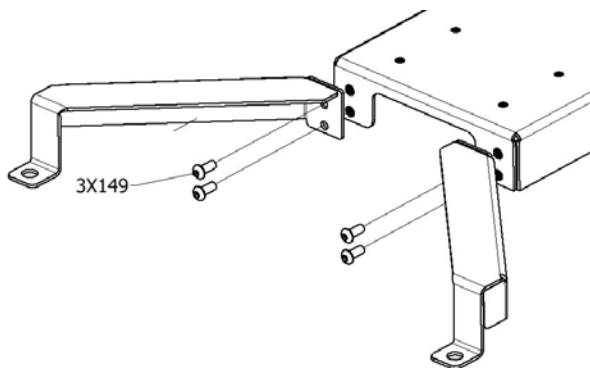
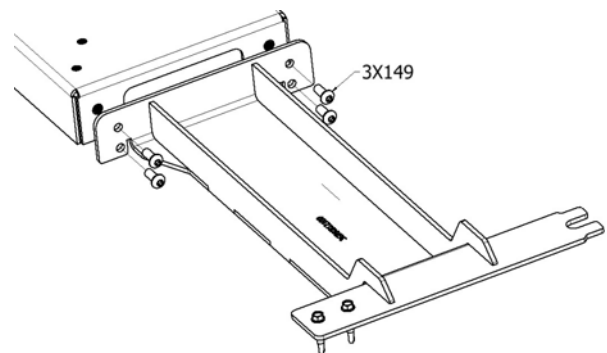

Figure 1a
Figure 1b
- A. Locate the Driver Front Leg [3GRK812102] and (2) Button Head screws [3X149].
- B. Align the Driver Front Leg with the corresponding holes on the driver side of the Base as shown in Figure 1a. Ensure that the two widest holes in the base are opposite the front legs (refer to exploded view on the last page).
- C. Using a 3/16" Hex drive install the (2) screws gathered in step A.
- D. Repeat steps A - C on the passenger side of the base using the Passenger Front Leg [3GRK812103] and (2) Button Head screws [3X149].
- E. Locate the Rear Bracket [3GRK812100] and the remaining (4) Button Head screws [3X149].
- F. Align the Rear Bracket with the corresponding holes in the Base as shown in Figure 1b.
- G. Using a 3/16" Hex drive install the (4) screws gathered in Step E.